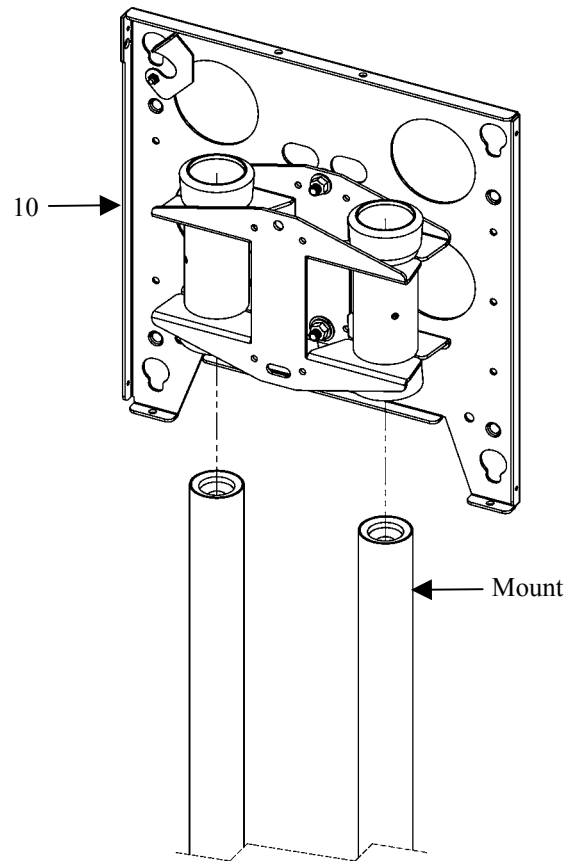

Figure 3. Mount the PAC-142
1. Place the PAC-142 (10) over the dual poles on the mount as shown in Figure 3.
3. Tighten the four 5/16-18 socket head set screws (20).